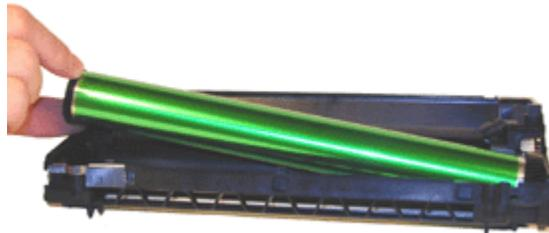

FIGURE 24
20. Install the drum. See Figure 24